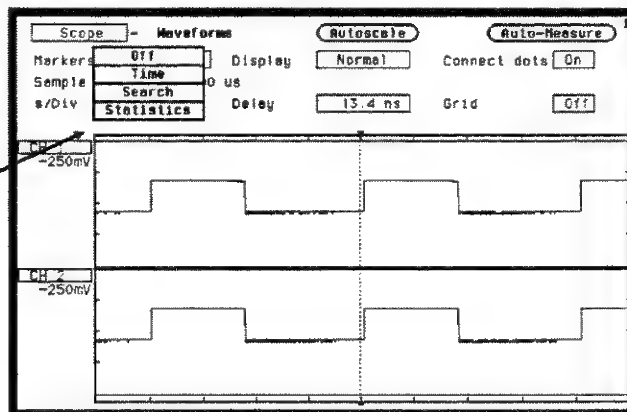

Figure 25-10. Markers Field Pop-up
In the Waveforms menu, the **Markers** field is located on the left side of the top row of fields, and can only be accessed from the Oscilloscope's Waveforms menu. When the Markers field is selected, a pop-up appears as shown in figure 25-10.
**Statistics** The last field in the Markers pop-up shown in figure 25-10 is **Statistics**. When Statistics is selected from the Markers field, a new middle row of fields appear. See figure 25-19.